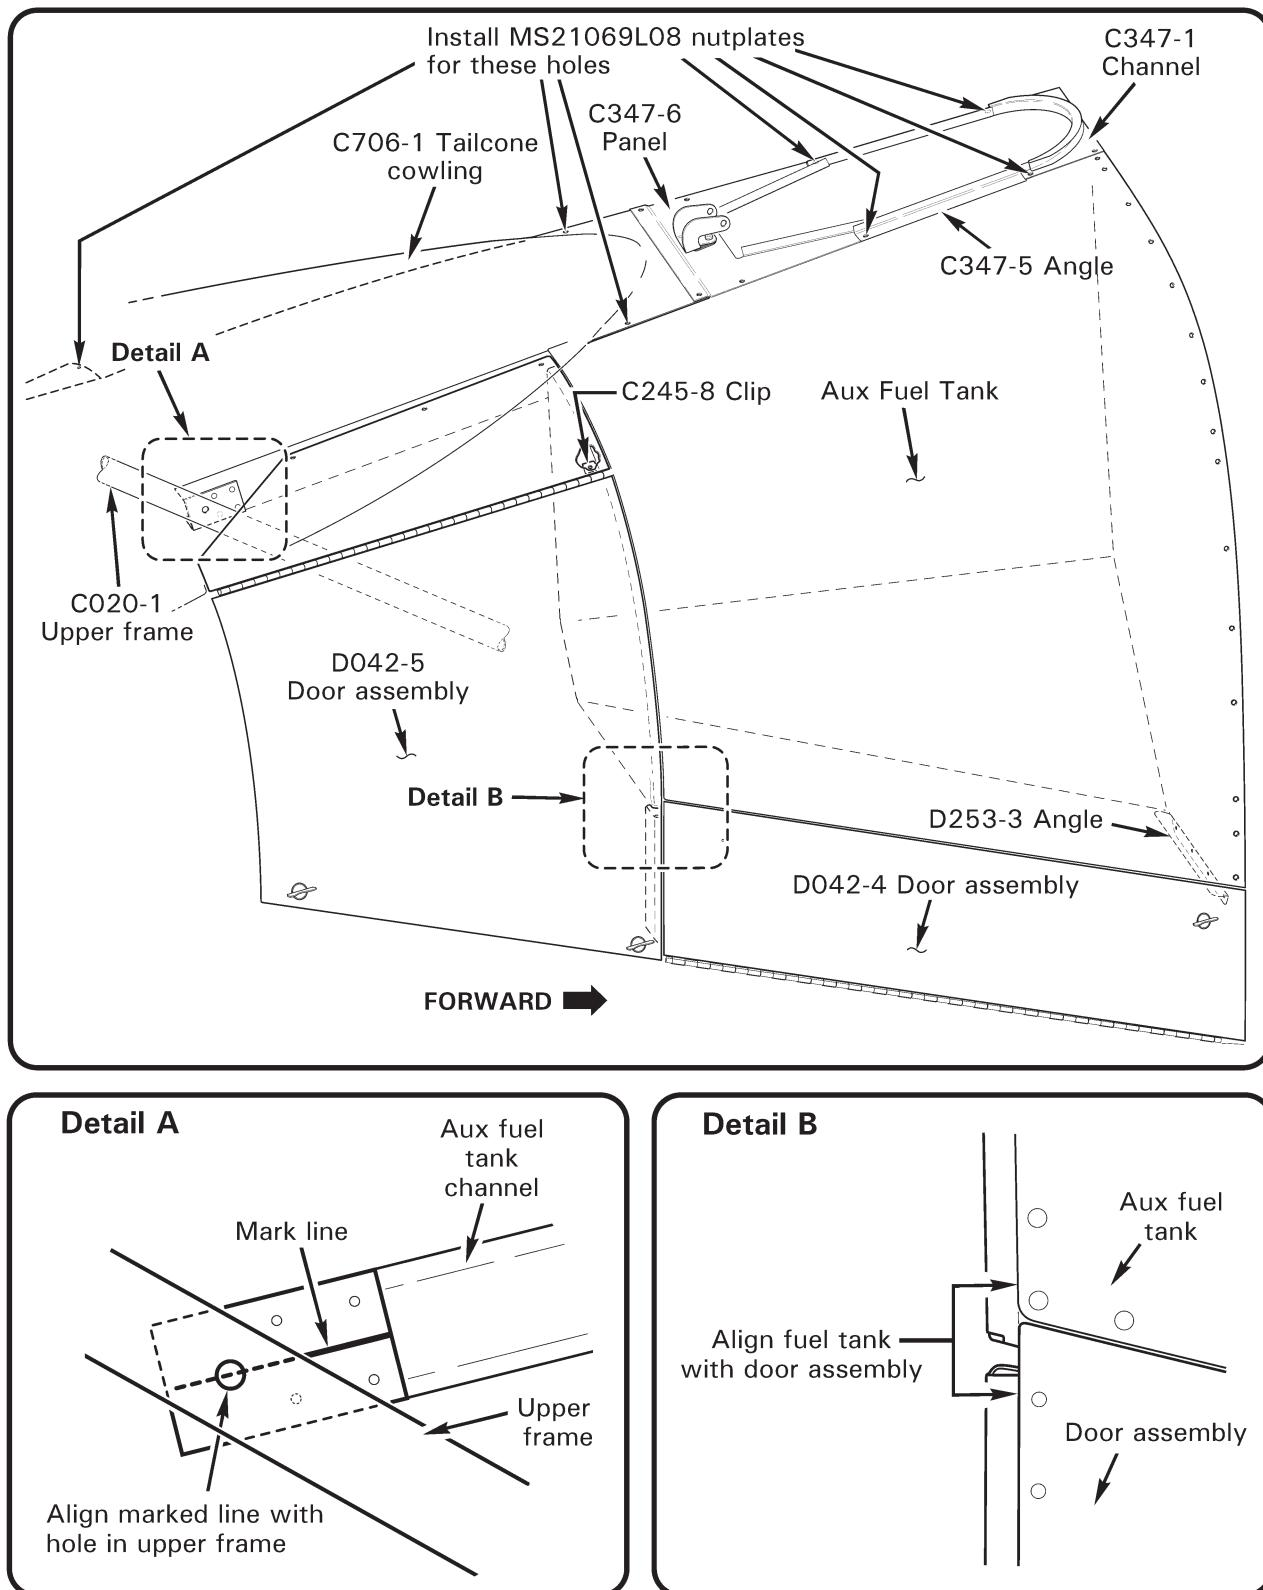

FIGURE 12-4 AUX TANK REPLACEMENT
3. Refer to Figure 12-4, Detail A. Mark horizontal centerline of new D043-1 aux fuel tank channel doubler.
4. Position tank in helicopter. Align marked line with center of upper frame attachment hole per Figure 12-4, Detail A. Align tank exterior skin with aft edge of latched D042-4 door assembly per Detail B. Secure tank position by clamping channel to frame at attachment hole.
10. Refer to Figure 12-4. Open D042-4 door. Using a drill stop, match-drill 0.170-inch holes in C259-2 bulkhead through holes in D253-3 angle. Close and latch door.